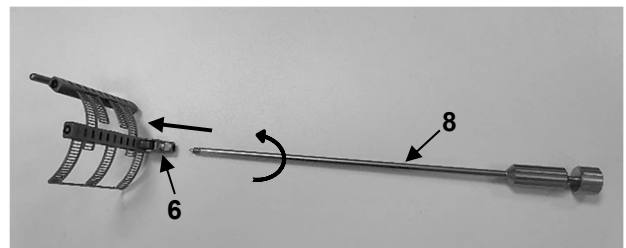

Fig. 8
To raise or lower the atrial blade, first screw the MRN-3 blade guide (8) clockwise into the thread of the joint (6) (Fig. 8).